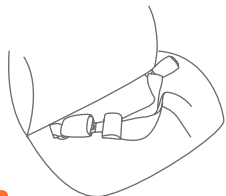

Fig. 40-2
- Buckle the seat belt being careful that the seat belt is not twisted and is securely latched into the appropriate buckle, and not the adjacent buckle (Fig. 40-2).